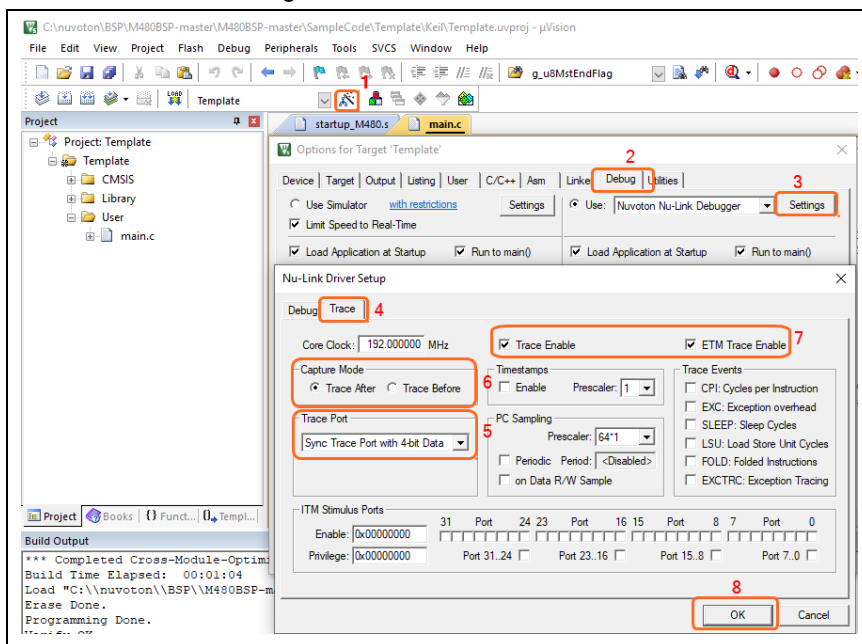

Figure 5.2-21 Trace Setup with ETM
(10) Configure the NuTrace.
- As shown in Figure 5.2-21, In debug setting dialog, select the “**Trace**” tab.